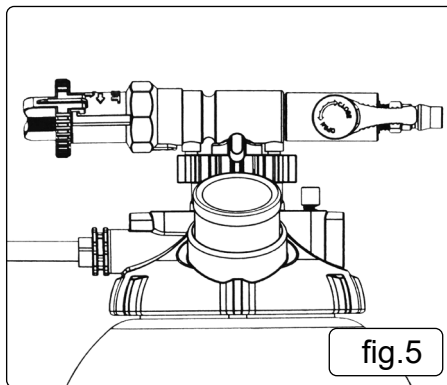

fig.5
4.1.5. Switch the lever to "OPEN" position. (fig.5)